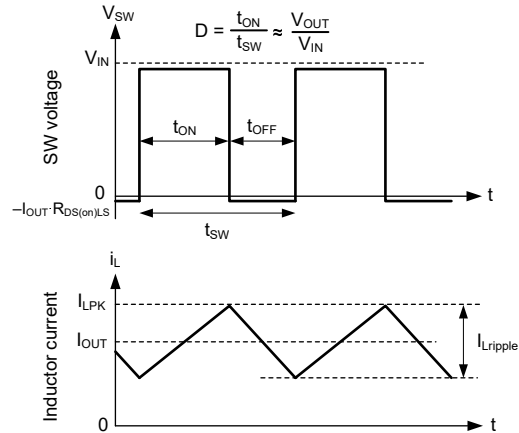

図 7-20. SW Voltage and Inductor Current Waveforms in Continuous Conduction Mode (CCM)
The following operating description of the converter refers to the Functional Block Diagram and to the waveforms in Figure 7-20. In CCM, the converter supplies a regulated output voltage by turning on the internal high-side (HS) and low-side (LS) NMOS switches with varying duty cycle (D). During the HS switch on time, the SW voltage, V_{SW} , swings up to approximately V_{IN} , and the inductor current, i_L , increases with a linear slope. The HS switch is turned off by the control logic. During the HS switch off time, t_{OFF} , the LS switch is turned on. Inductor current discharges through the LS switch, which forces V_{SW} to swing below ground by the voltage drop across the LS switch. The control loop adjusts the duty cycle to maintain a constant output voltage. D is defined by the on time of the HS switch over the switching period: